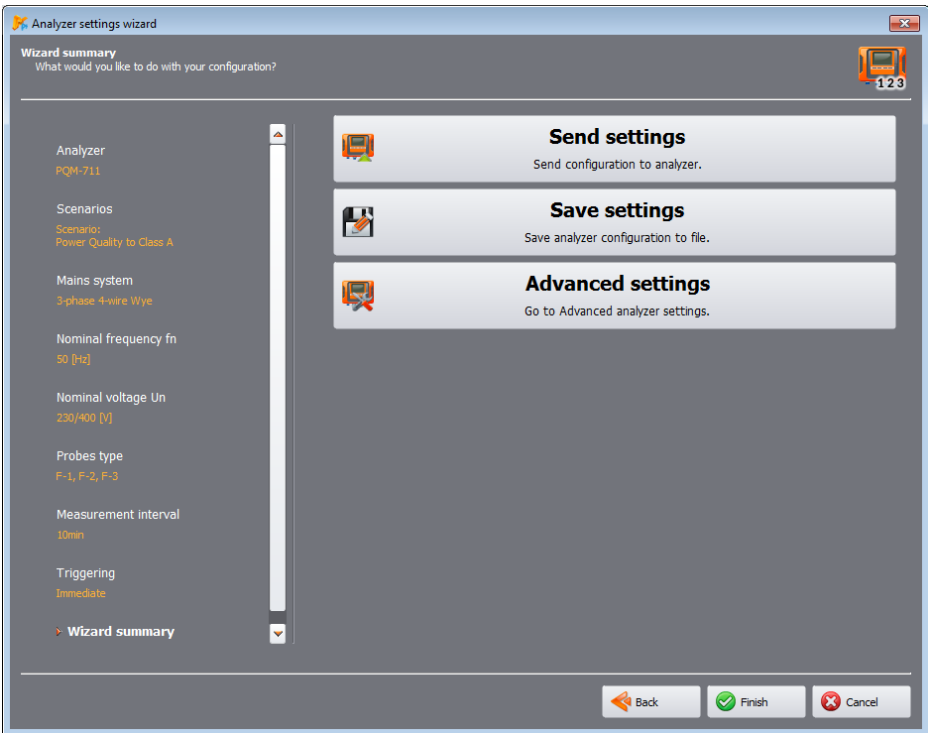

Fig. 15. Settings wizard – summary.
- **WIZARD SUMMARY** – the last step of the wizard (Fig. 15) allowing user to send the created settings to the analyzer (click **SEND SETTINGS**). If the analyzer is not connected, the selection and connection procedure will be started (sec. 2.1), and then the settings will be sent. Note: The entire contents of the memory will be deleted. The wizard as default uses **CONFIGURATION 1** of the analyzer; it also reserves for it the entire analyzer memory space. The setting created with the Wizard may be saved on the disk for later use as a file *.*settings* (option **SAVE SETTINGS**). Alternatively, you can select **ADVANCED SETTINGS**, where the initial settings may be viewed and modified and then sent to the analyzer (window **ANALYZER SET UP**, will be shown as in sec. 3.2).